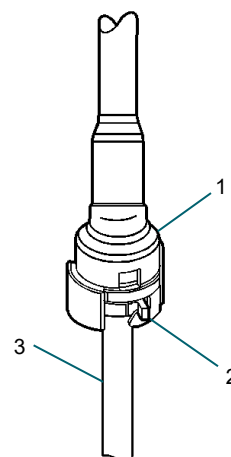

Figure 1: Quick connect fitting (1), release tab (2), nipple (3).
3. *To safely release quick connect fittings for all line types:* Firmly but gently squeeze quick connect fitting (1) tab (2) and twist fitting counterclockwise. Pull fitting straight off nipple (3). *Figure 1*